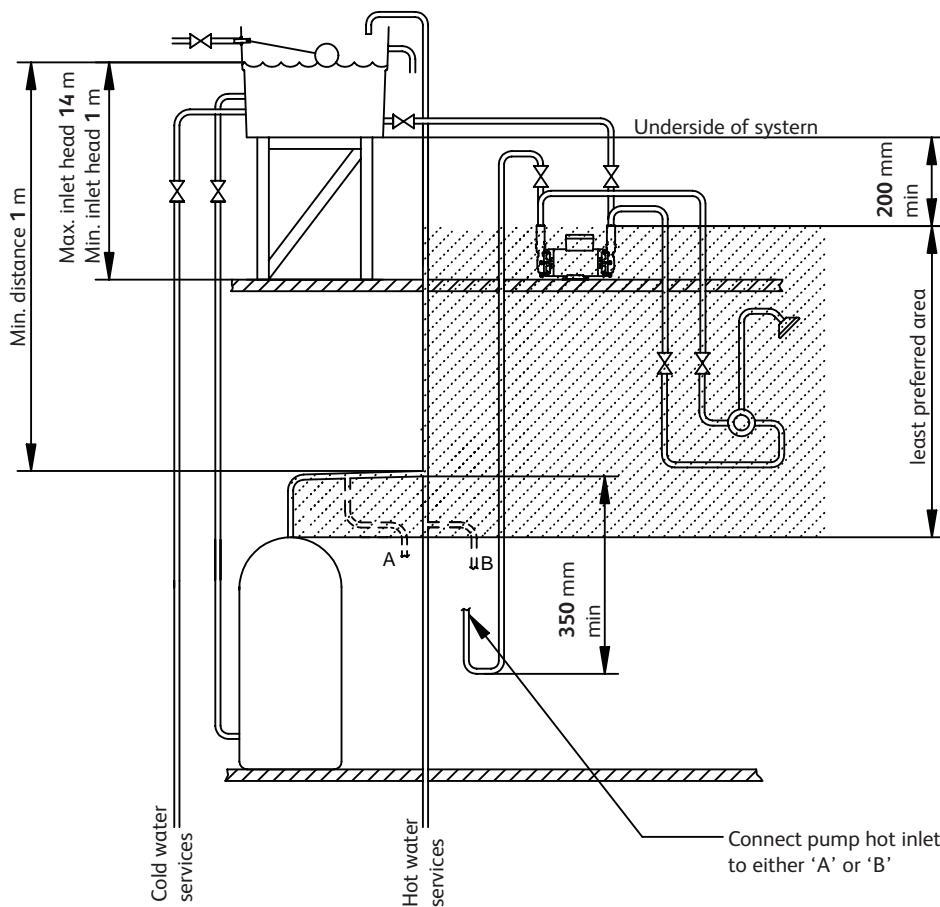

Fig. 3
- 1) A "U" bend or downward loop in the supply pipe to the pump of 350 mm depth before rising to the pump should ensure the cylinder vents its air up the expansion pipe not up the pump feed (see Fig. 3).